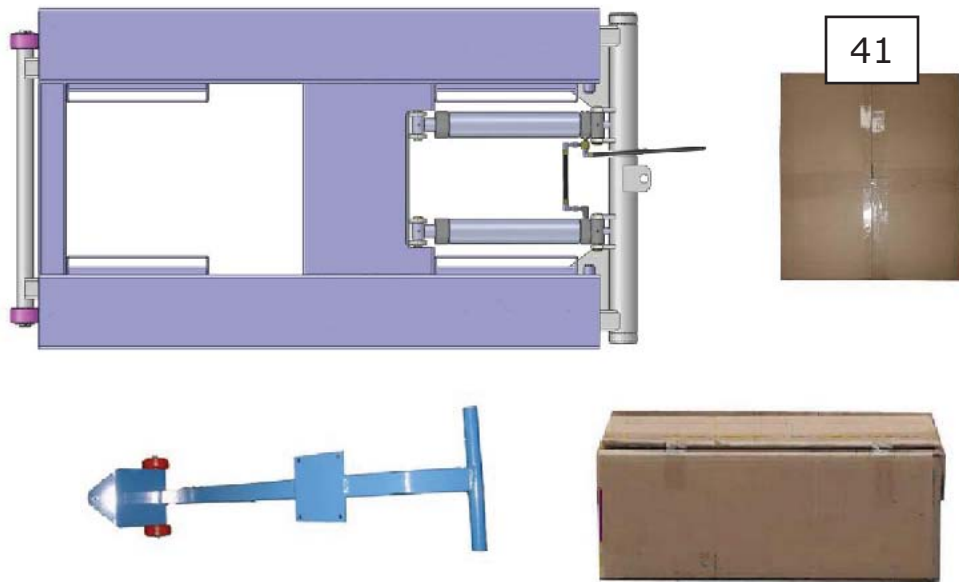

Fig. 3
1. Packaged lift, Parts box, Power Unit and Power Unit Stand. Move the parts aside, open the outer packing and check the parts according to the shipment list (See Fig. 3).